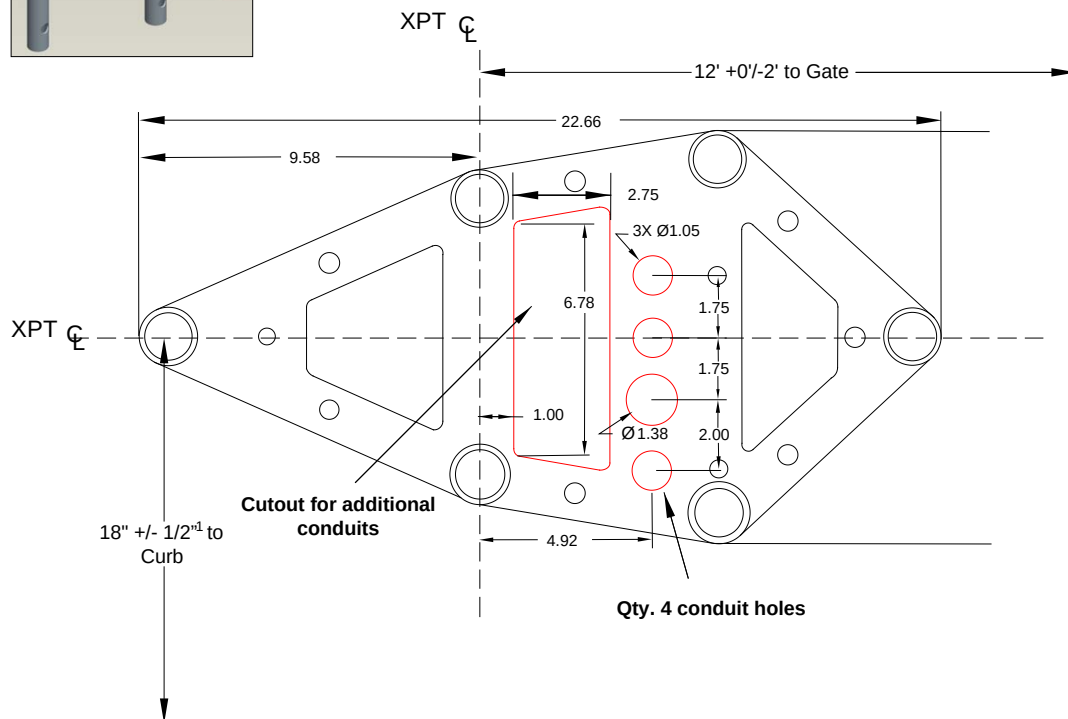

Figure 6. Standard Base Frame
1. Verify that each conduit is properly located according to the holes and cutout in the base frame according to Figure 6.